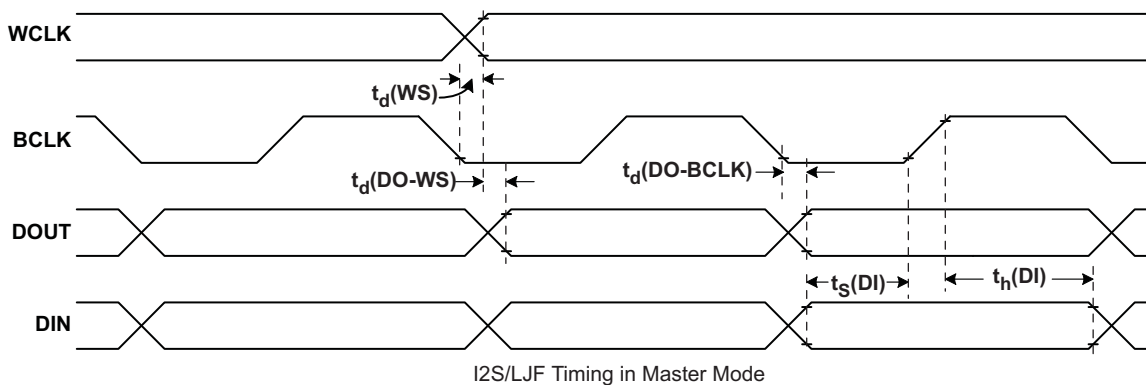

Figure 3-1. I²S/LJF/RJF Timing in Master Mode
3.4.2 TYPICAL TIMING CHARACTERISTICS (see Figure 3-1)